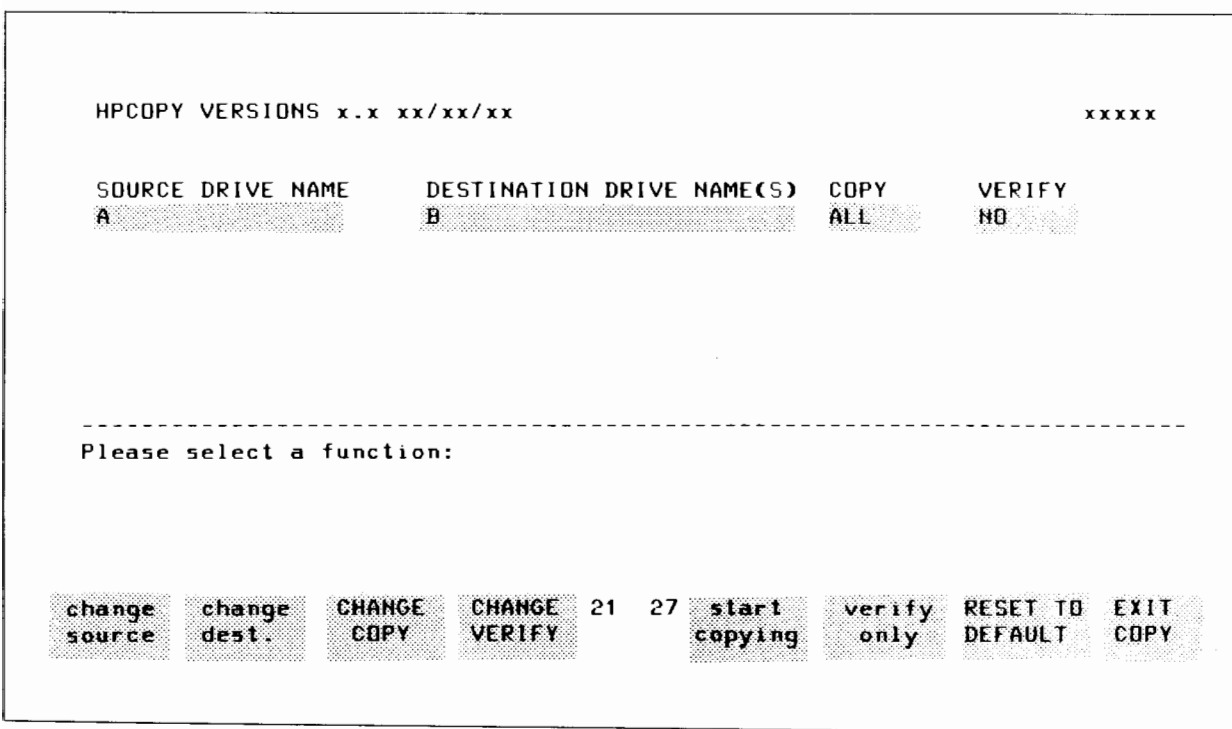

Figure 2-4. Copy Utility Screen
2. Press the DISC COPY function key [f1]. The screen will change when the utility is ready. (See Figure 2-4).